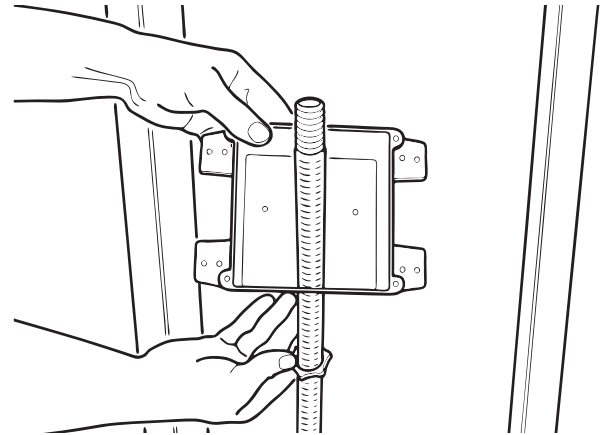

Figure: 4-31
2. Remove the box cover and slip the locknut and box over the end of the pipe (Figure 4-31).